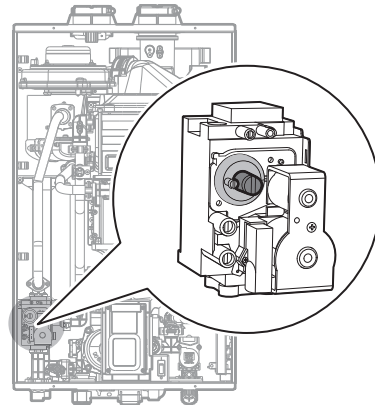

Figure 10
- c. Fully open a hot water fixture and set the water heater to operate at 1-stage MIN mode (refer to page 59). Measure the offset value at low fire and compare it to the values in Table 3. If the offset value is out of range, the gas valve set screw will need to be adjusted. If adjustment is necessary, locate the set screw as shown in Figure 10. Using a  $\frac{5}{32}$  in or 4 mm Allen wrench, turn the set screw no more than  $\frac{1}{4}$  turn clockwise to raise or counterclockwise to lower the offset value.